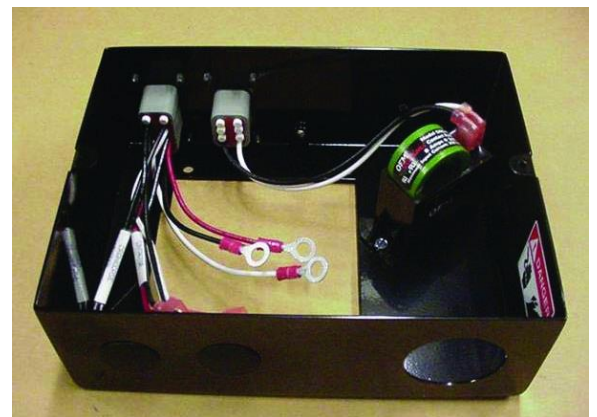
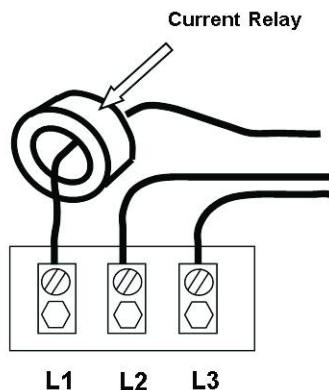

Figure 2.1 3D Terminal Box Assembly
Figure 2.2 Current Relay Wiring
All terminal box connections are to be made with AMP P/N 2-520183-2 or equivalent. Refer to figure 2.1.
- 2D and 3D compressors have a current relay in the terminal box (refer to figure 2.1 above). The current relay is used to detect an open motor protector. Route one motor power lead through the relay as in figure 2.2. Note: 2D TFD and TFE compressors 6 HP or smaller should pass the power lead twice through the coil. The minimum amp draw that the relay can properly sense is 5.5 amps.